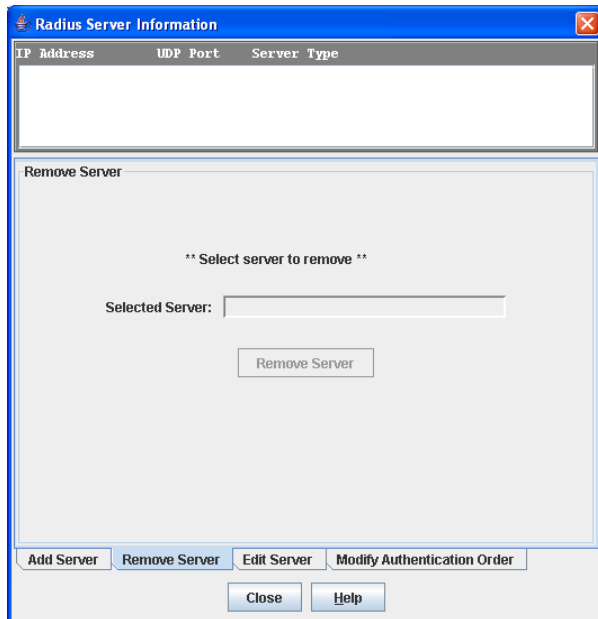

Figure 23 RADIUS Server Information dialog—Remove Server tab page
2. Click the **Remove Server** tab in the Radius Server Information dialog shown in Figure 23.